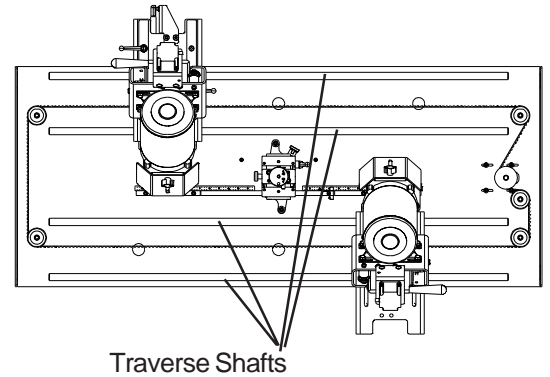

FIG. 6
STEP 2--Flood spray the four shafts with a spray lubricant (**VIEW LIST OF RECOMMENDED LUBRICANTS BELOW**) until the lubricant is dripping off the shafts. See FIG. 6 Then run the carriage back and forth through its full range of travel. This will carry the lubricant into the bearings.